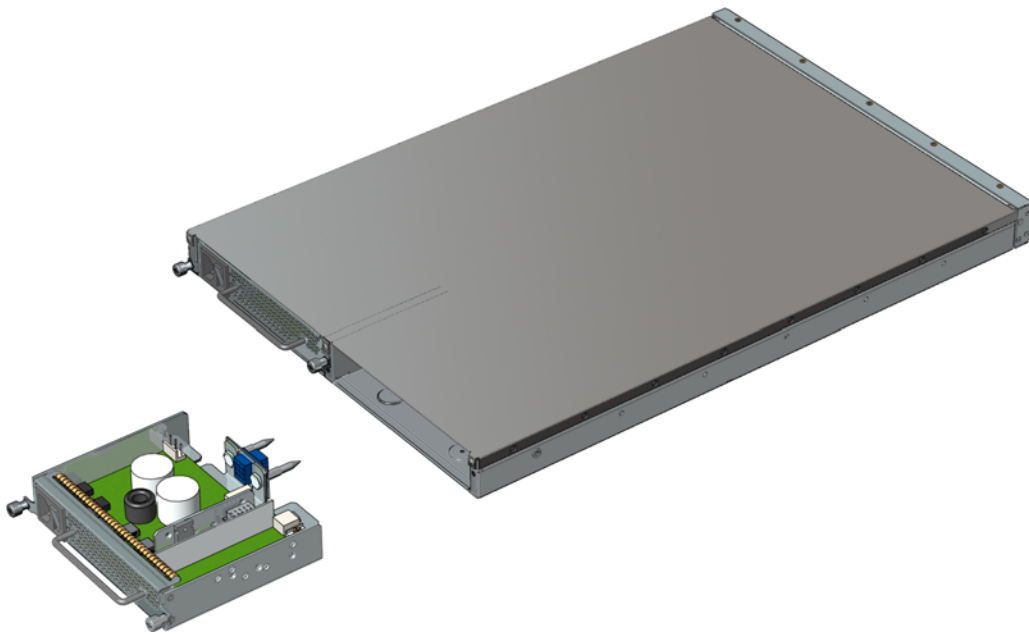

Figure 5-1 Power Supply Removal
5. Pull the power supply out by the handles as shown in Figure 5-1.